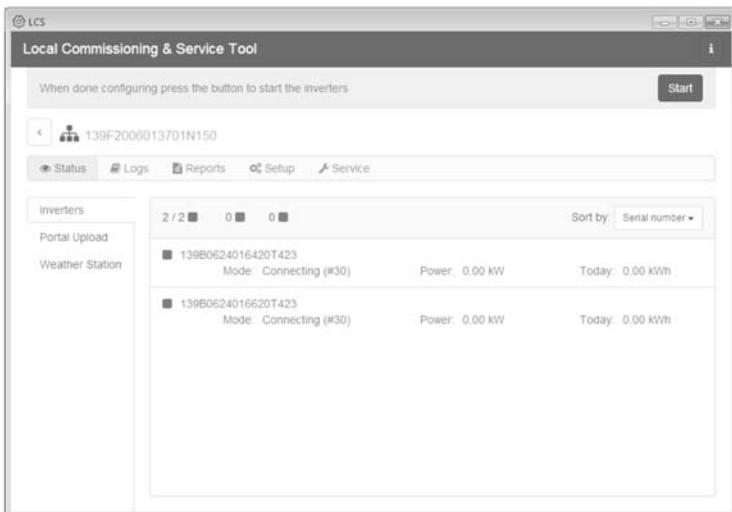

Figure 5.8 LCS tool - list of all inverters connected to the Inverter Manager
11. A green square identifies the commissioned inverters. The inverters are only connected to the utility grid when the [Start] command has been carried out from the bar below the start menu. See figure 5.8.